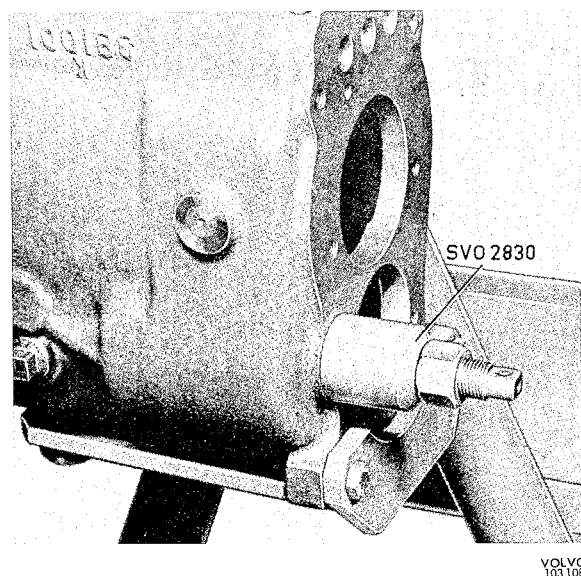

Fig. 4-18. Reverse shaft removal
11. Pull out the reverse shaft with puller 2830, see Fig. 4-18, and take out the reverse gear.